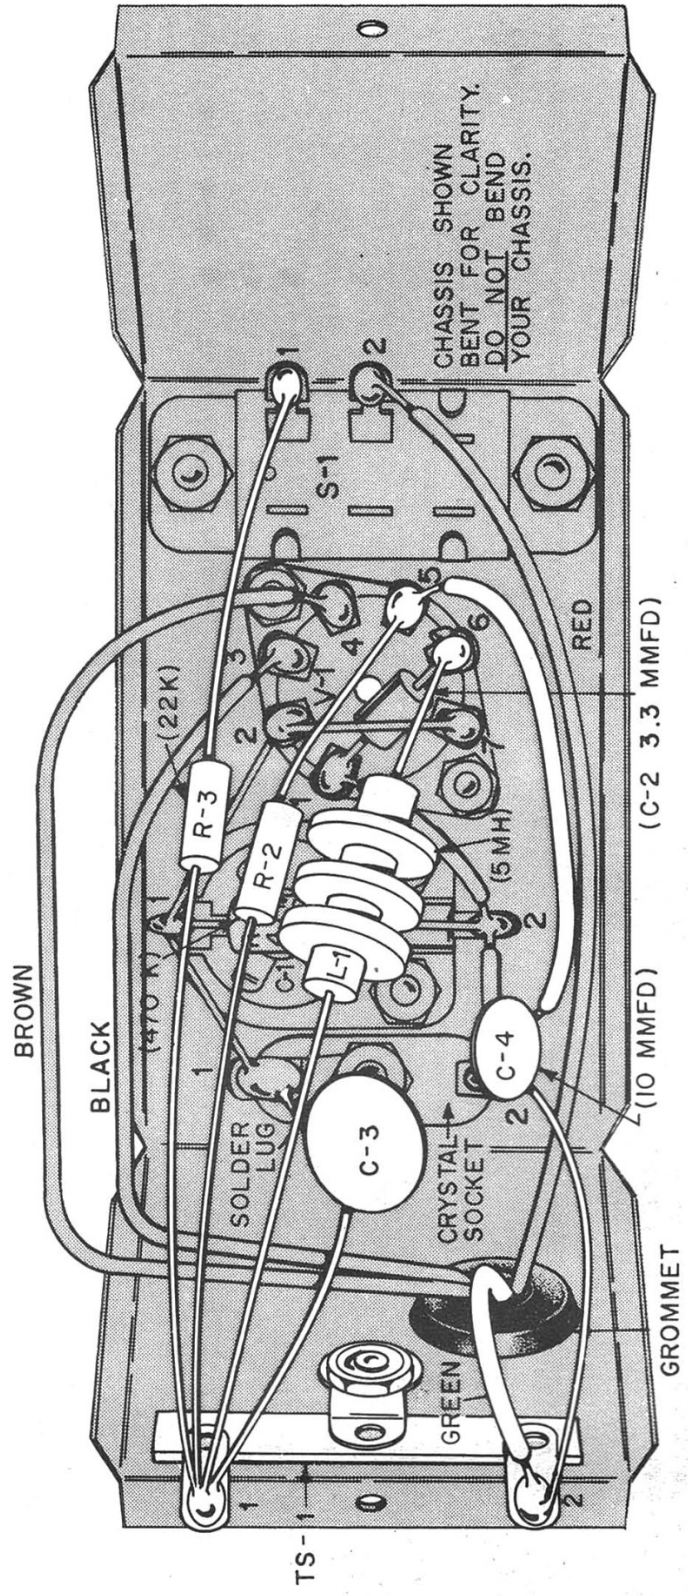

FIGURE 4. FINAL WIRING VIEW
SEE FIGURE 4.
- ☐ Mount the terminal strip, TS-1, as shown in Figure 4. Use a $\frac{1}{4}$ " screw, a lockwasher, and a matching nut to fasten TS-1, with a lockwasher between the mounting leg and the chassis.